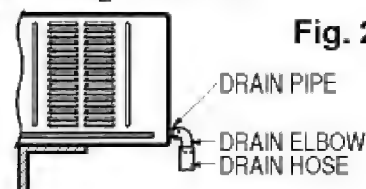

Fig. 2
3. Or connect a pipe elbow to the drain pipe, then connect a drain hose to the pipe elbow as shown in Fig. 2.